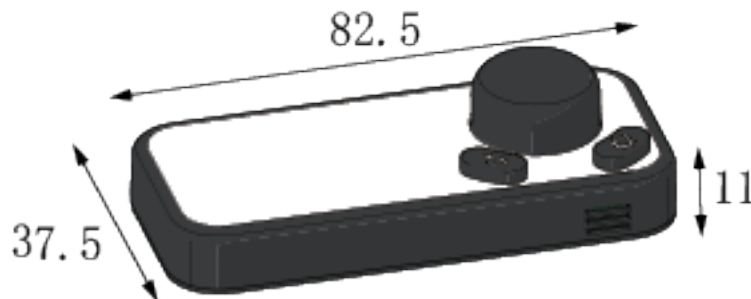

Figure 3
6. Assemble the Controller back together by pressing the Top Cover against the backplate as shown in Figure 3.